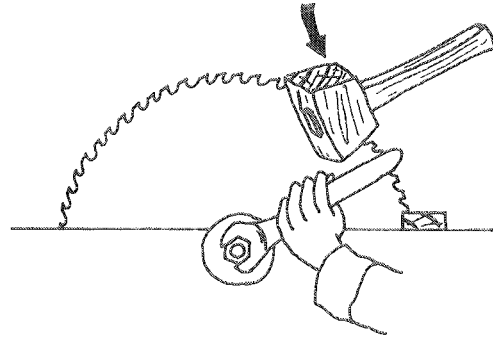

Fig. 1.29 Loosening saw blade.
4. Secure the blade with a piece of scrap timber under the front of the teeth and, by giving sharp mallet blows on the spanner, loosen the locking nut (**Fig. 1.29**). Most machines have left-handed threads that will require loosening by turning the nut clockwise. As a general rule, loosen the nut in the same direction as the blade spins.